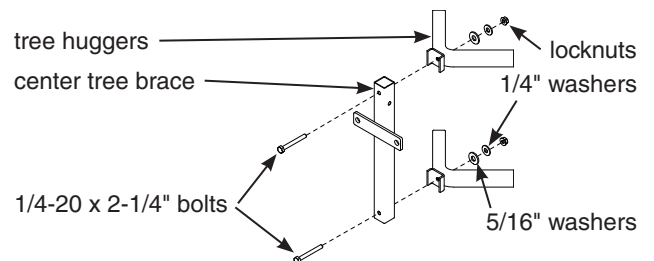

FIGURE 3
4. Attach the (2) tree huggers (SS12) to the center tree brace using (2) provided 1/4-20 x 2-1/4" bolts, locknuts, 1/4" washers and 5/16" washers. **SEE FIGURE 3. You must now tighten all nut & bolt assemblies. Be sure not to over tighten or crush tubing when tightening!**